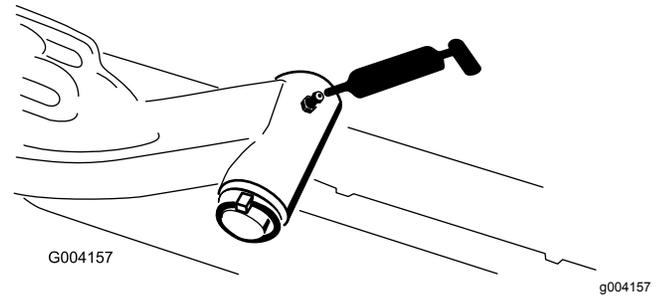

Figure 75
- Lift-arm-pivot shaft (1 each) (Figure 75)